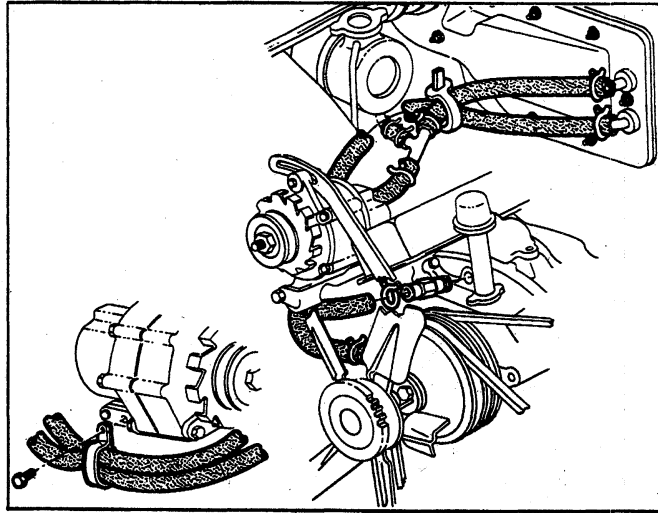

Fig. 20—Heater Hoses—Corvette
4. Replace the heater hoses. (See Figure 20)